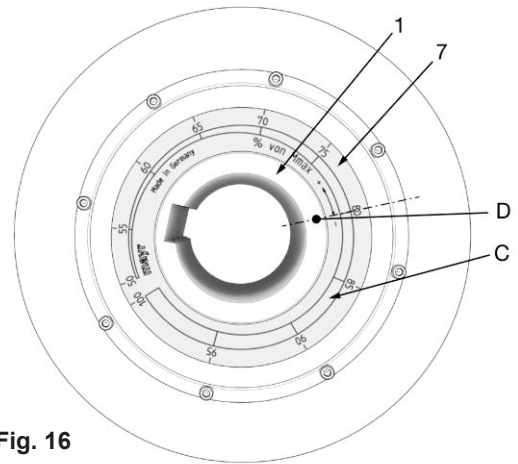

Fig. 16
5. The required torque results from the marking overlap (D) on the hub (1) and the percent value (C) on the adjusting nut (7), see Fig. 16.
6. Paint the set screws (18) with Loctite 243
7. Screw the set screws (18) into the adjusting nut (7) and tighten with torque (see table in section 3.4)
8. Type 410...1400 (Design with switching disk (25) and cover ring (26)):
- Mount the cover ring (26)
- Paint the cap screw (27) with Loctite 243 and screw it into the control element (3)